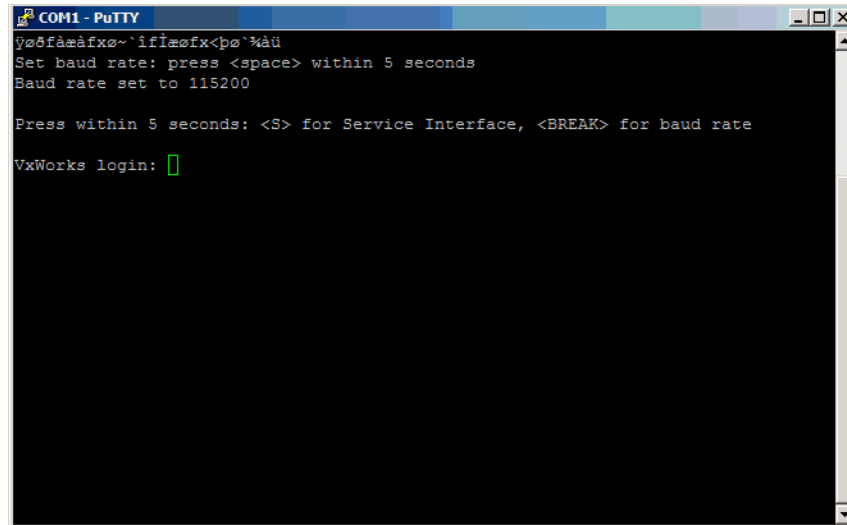

Figure 5-102 Serial login prompt
5. Press ESC within 5 seconds to get the login. You get login prompt as shown in Figure 5-102 on page 410: